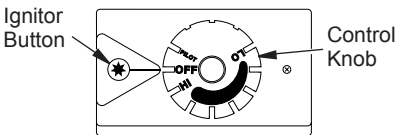

Figure 36 - Control Knob In The OFF Position
4. Wait five (5) minutes to clear out any gas. Then smell for gas, including near the floor. If you smell gas, STOP! Follow "B" in the safety information in column 1. If you don't smell gas, go to the next step.
5. Turn control knob counterclockwise  to the PILOT position. Press in control knob for five (5) seconds (see Figure 36, page 22).